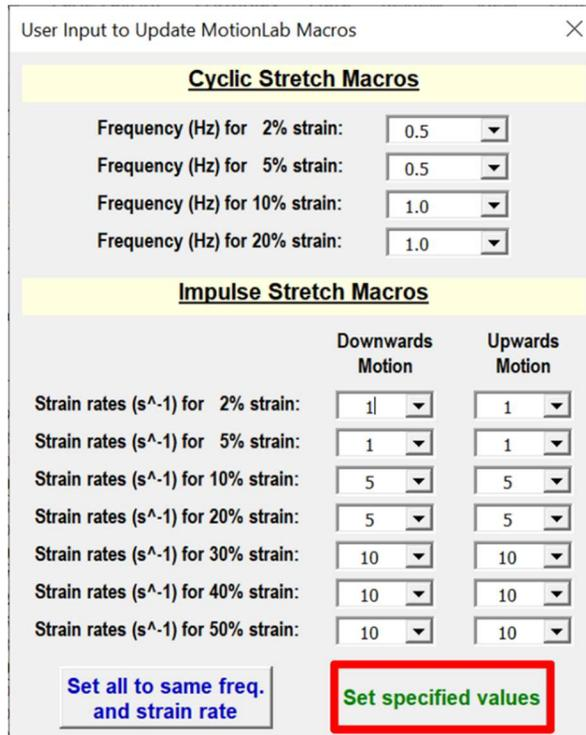

Fig. 53: User input window when Updating the MotionLab macros.
- 2) Click the **“Set specified values”** button (Fig. 53 below) to use the user-specified cyclic stretches frequencies and impulse stretches strain rates.